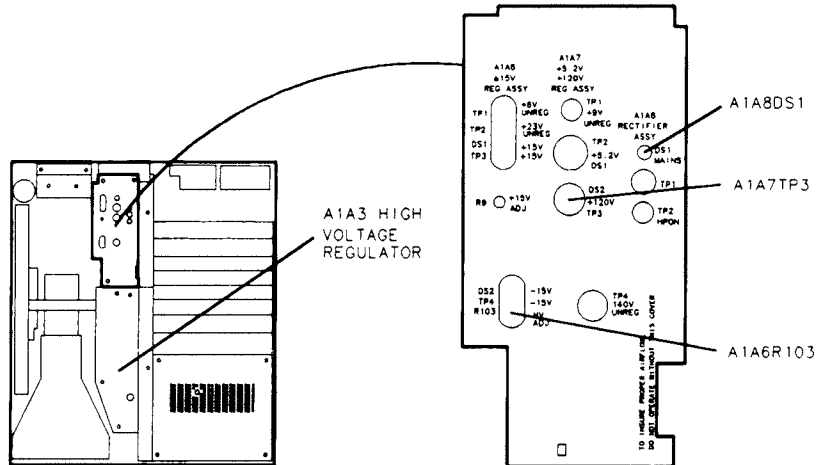

Figure 3-13. Location of High Voltage Adjustments
3. Set the DVM to the 100V range, and connect the DVM to A1A7TP3 (+120V) without the high-voltage probe. See Figure 3-13.
The MAINS power-on indicator A1A8DS1 (red LED) should be completely off before proceeding with this procedure. See Figure 3-13 The indicator will remain lit for several seconds after the ac line cord has been removed, and will go out slowly (the light becomes dimmer until it is completely out).
15. Adjust A1A6R103 HV ADJ for a DVM indication equal to the calibration factor (calculated in step 8) times the voltage labeled on the top of the A1A3A1 High-Voltage Assembly (noted in step 11). See Figure 3-13 for the location of the adjustment.